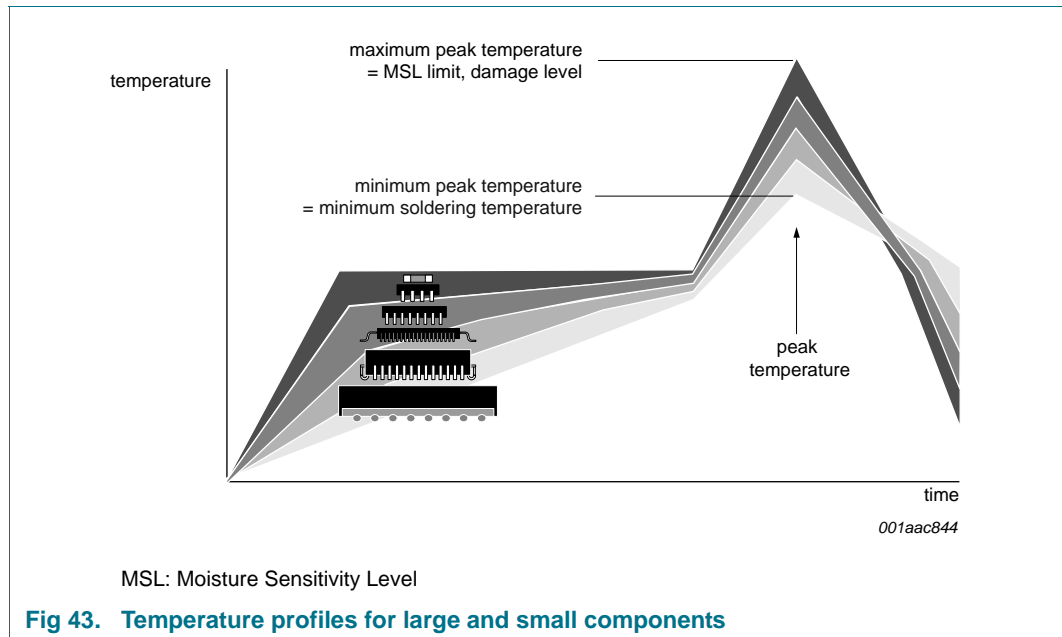

Fig 43. Temperature profiles for large and small components
- Lead-free versus SnPb soldering; note that a lead-free reflow process usually leads to higher minimum peak temperatures (see Figure 43) than a PbSn process, thus reducing the process window
Studies have shown that small packages reach higher temperatures during reflow soldering, see Figure 43.